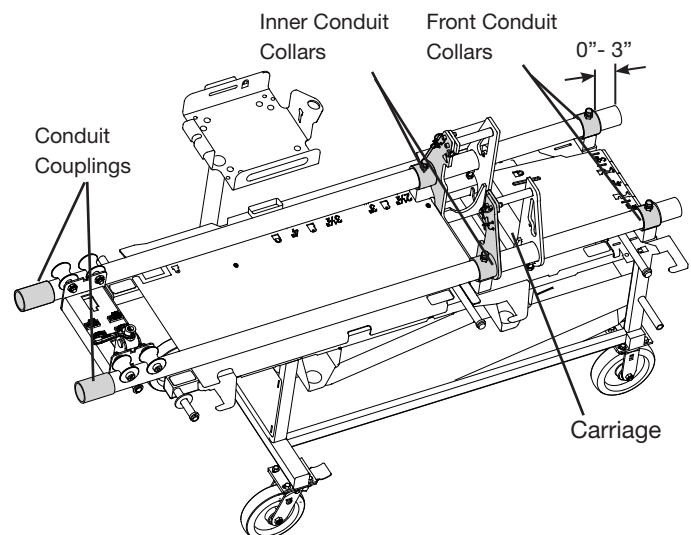

Figure 1
5. Check that the conduit rails and carriage are in the proper position. The carriage should be touching the inner conduit collars and the conduit should not extend more than 3 in. past front collars (Fig. 1).
6. Check the conduit couplings (Fig. 1) are secure and hand tighten if necessary. A loose coupling could allow the vise to fall off the end of the conduit. Remove these couplings to remove vise.